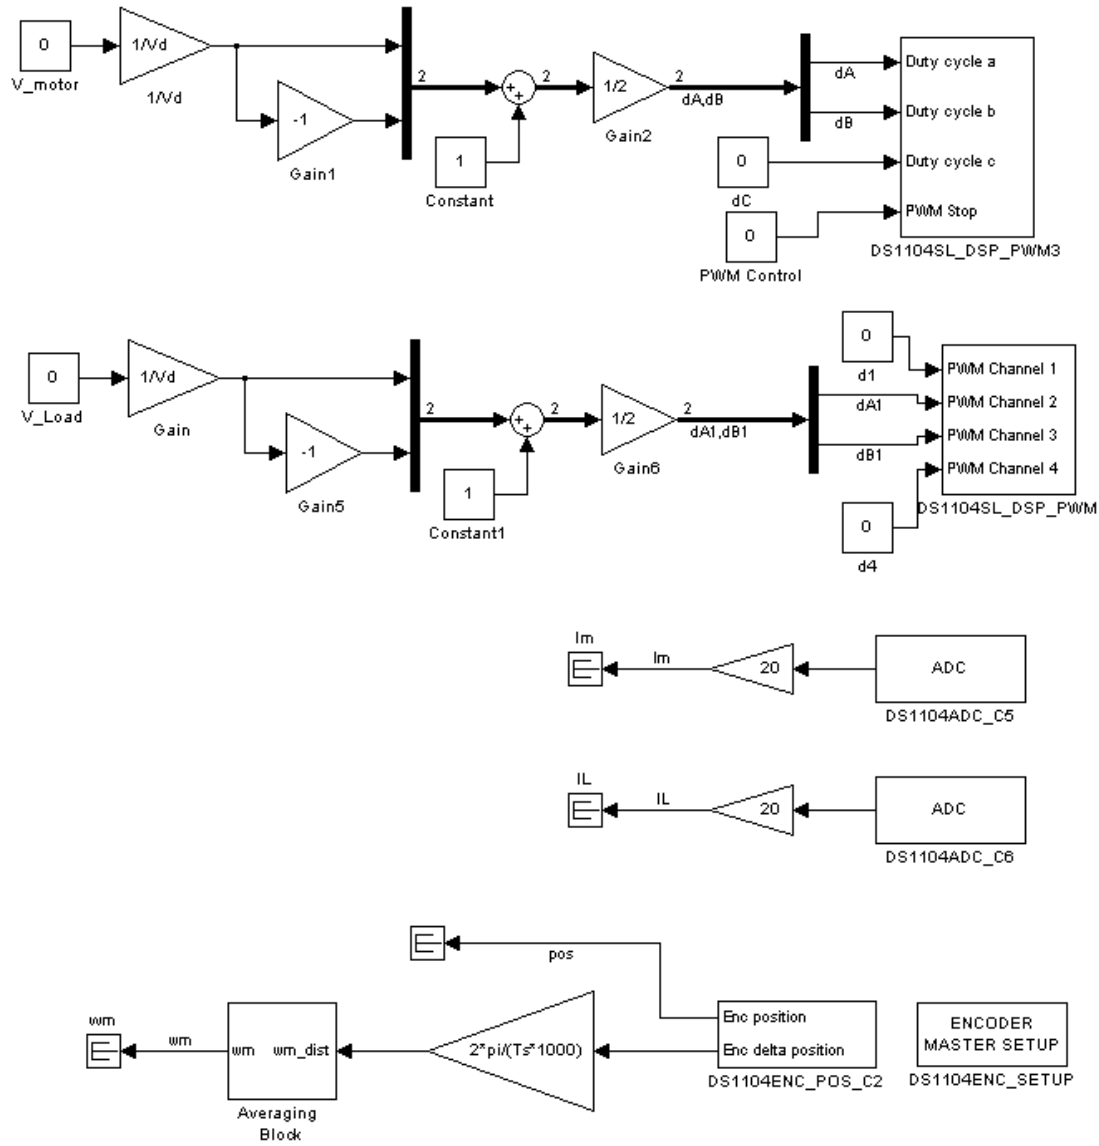

Figure 4.1: Real-time Simulink Model for Motor and Load Control
- Save the model as ***Step1_04.mdl***. Your model should like the one shown in Fig. 4.1.